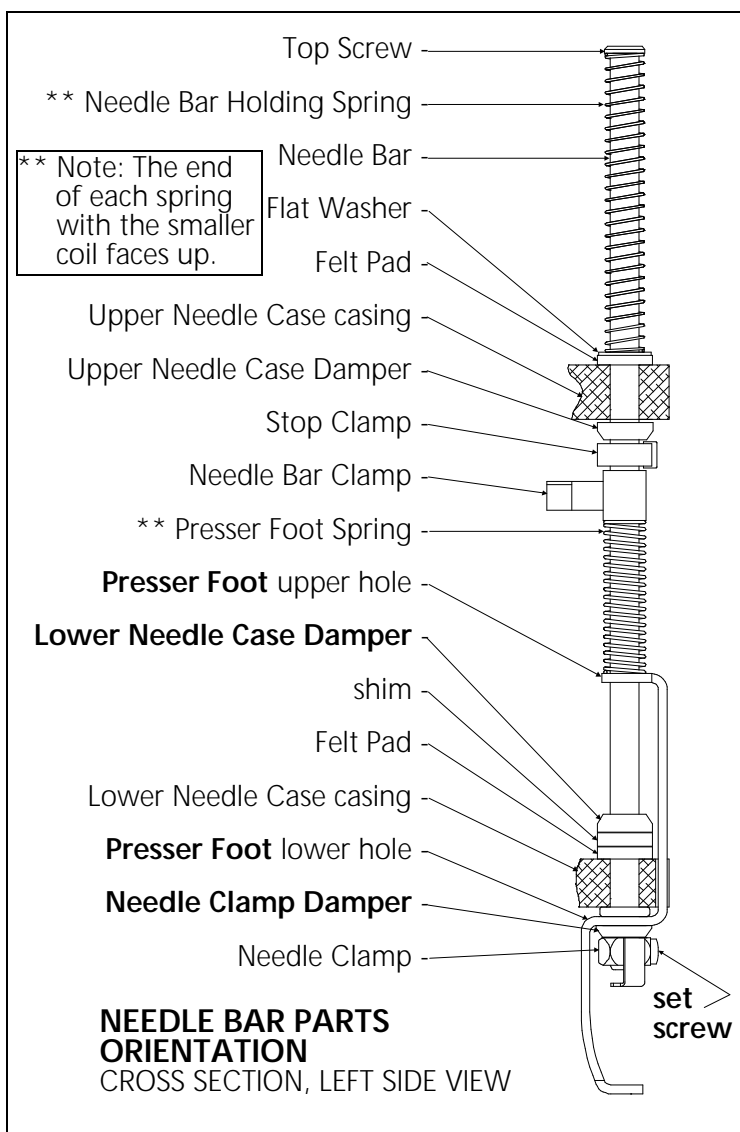

Figure 4
11. Carefully move the needle bar upward until the bottom of the needle bar clears the lower needle case casing, the felt pad, and shim (see Figure 4).
12. At this position you are able to place a new needle case damper in the lower position (see Figure 4). Place the needle bar through the middle hole. The presser foot may also be replaced at this time.
13. Re-insert the needle bar through the presser foot upper hole, the needle case damper, the shim, and the felt pad; and then into the lower needle case casing as illustrated in Figure 4.
15. Refer to Figure 4 to install the new or existing needle clamp damper and re-attach the needle clamp to the needle bar. Align the needle clamp screw with the lower side-hole of the needle bar and rotate it partially to secure the needle clamp.